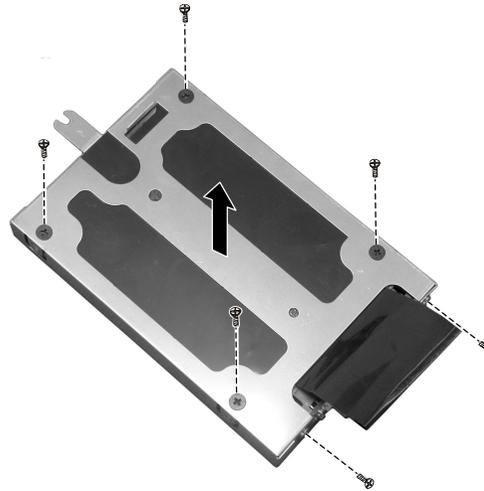

Figure 2-9 Remove hard disk drive
4. Remove the six screws to separate the hard disk drive from the bracket, remove the hard disk drive. (Figure 2-9)